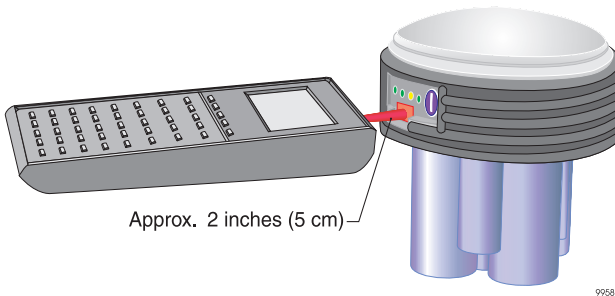

Figure 2.15: Locus and Handheld IR Ports
1. When you are ready to communicate, hold the IR ports of Locus and the Handheld **no more than four inches** apart and facing each other (Figure 2.15).